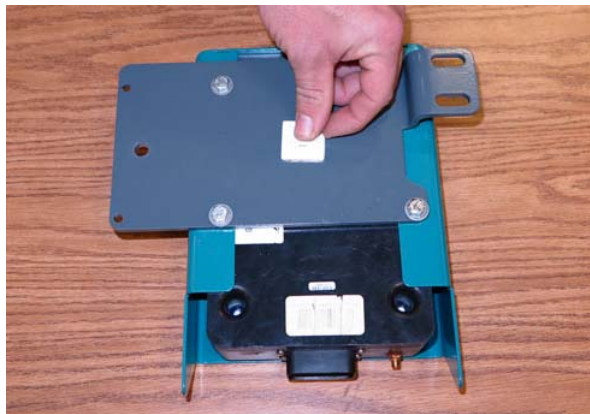

FIG. 9
13. Install the cable tie mount (24) onto the telemetry assembly assembled in the previous step. (Fig. 9)